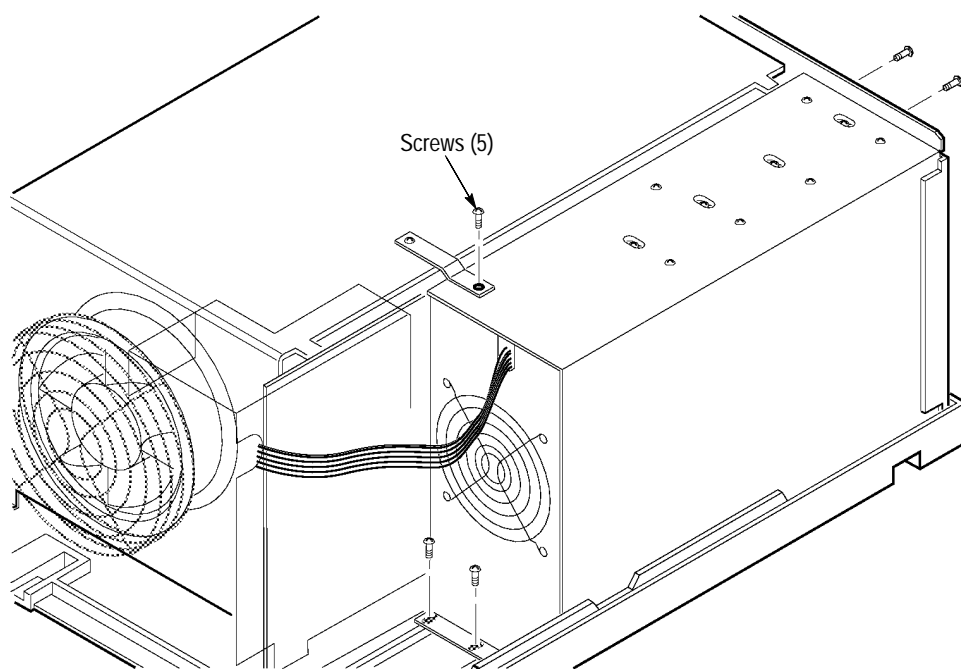

Figure 3–11: Location of Screws for Removing the Mainframe Power Supply
12. Unscrew the two bottom-front and two top-rear screws of the power-supply frame from the mainframe. (See Figure 3–11.)